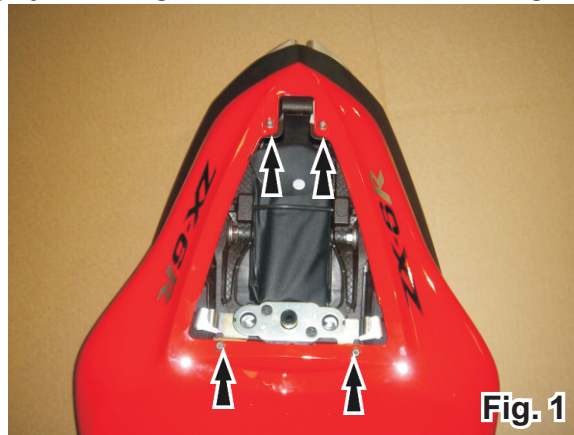

Fig. 1
- 2 Carefully remove Rear Cowling by removing the 4 bolts as indicated in Figure 1.